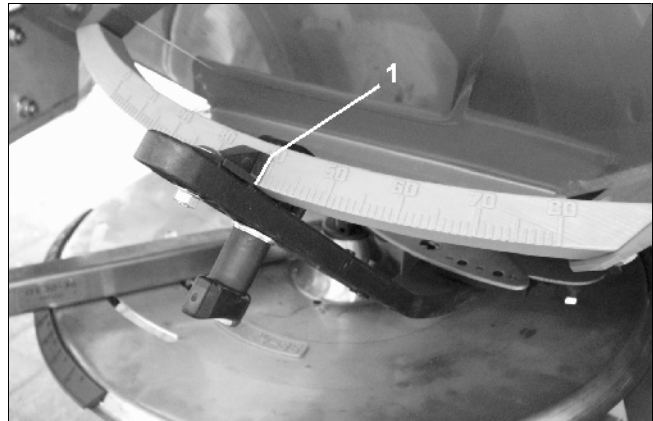

Fig. 52
- Press key until the reading (Fig. 52/1) of the left hand metering shutter shows the required shutter position.